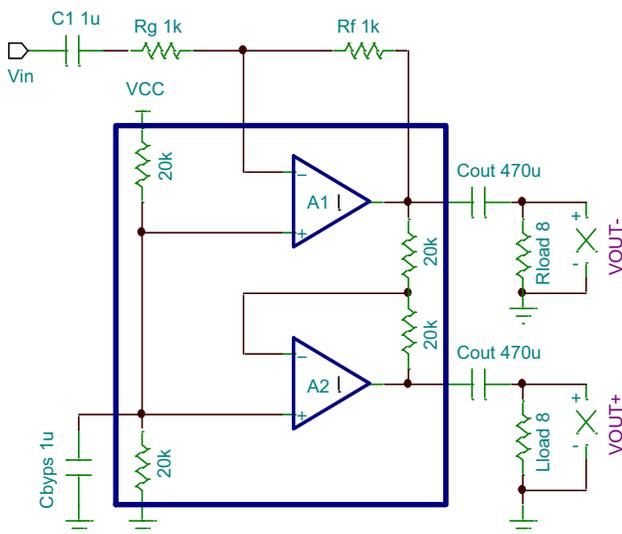

Figure 1. NCS2211 Single-ended (SE) Configuration
The single-ended (SE) amplifier is the basic configuration in audio applications. The SE configuration is often used to drive two speaker loads or headphones. The block diagram in Figure 1 illustrates an SE configuration since the load is connected to both amplifier outputs.
The amplifier shown in Figure 1 uses a single supply connection in conjunction with two internal 25 kΩ resistors to create a DC bias, equivalent to $V_{DD}/2$, on the non-inverting inputs of amplifiers A1 and A2. This allows a bipolar signal to swing around this common DC bias point.
The frequency response must also be considered when using coupling capacitors. Referring back to Figure 1, C_{IN} and R_g create a high pass filter network. The gain and feedback resistors may be sized to allow a small value capacitor to be used where a typical value for C_{IN} is 1 μF . In order to avoid attenuating the lower frequencies of the audio range, the input network must be sized appropriately according to the following equation: